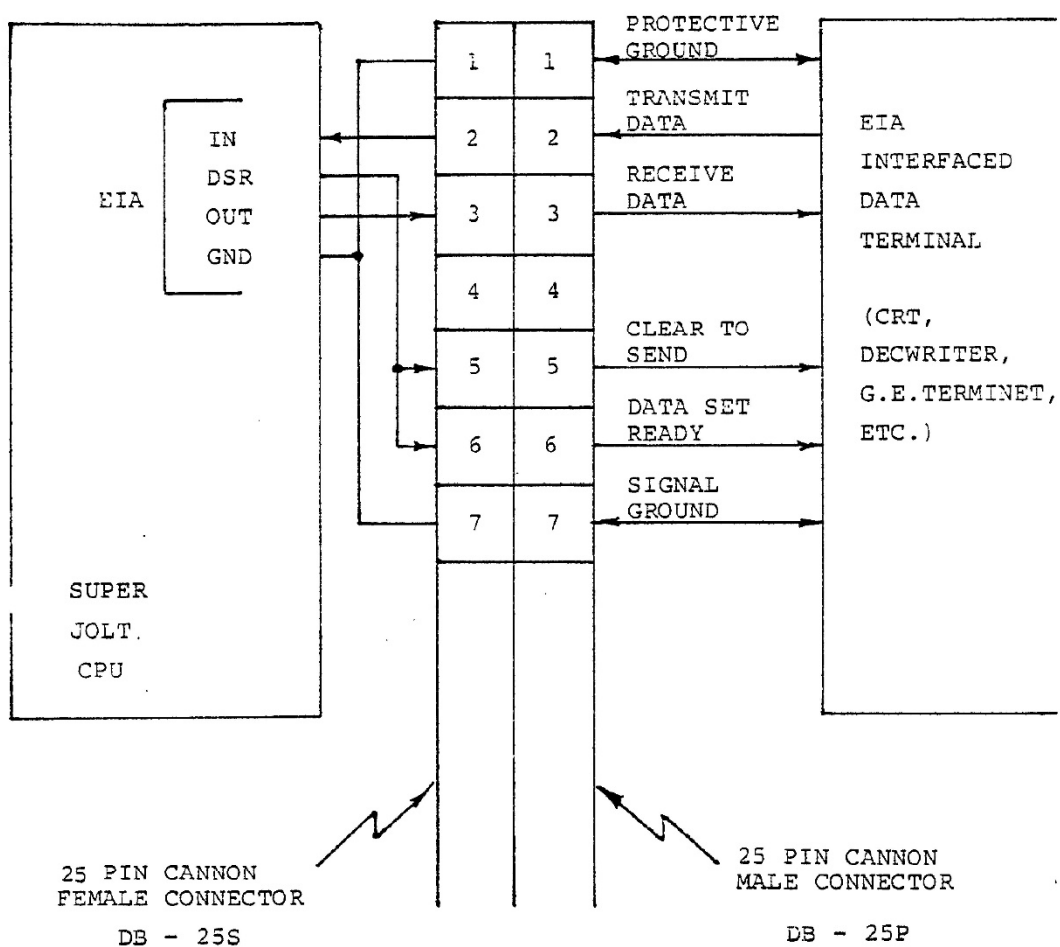

FIGURE 1. SUPER JOLT HOOKED TO AN EIA EQUIPPED TERMINAL
E.I.A.: The first type of interface we will discuss is the E.I.A. or RS-232C standard, here after referred to as E.I.A.. Table 1 shows the complete standard for signal assignment on the 25 Pin Cannon connector which is the standard connector for terminal-modem computer hookup with E.I.A.. Figure 1 shows the connection of a typical E.I.A. terminal to the SUPER JOLT CPU. When using the SUPER JOLT with an E.I.A. interface equipped terminal, connections should be made in this fashion. Note that the D.S.R. signal from the CPU is required only on some terminals.